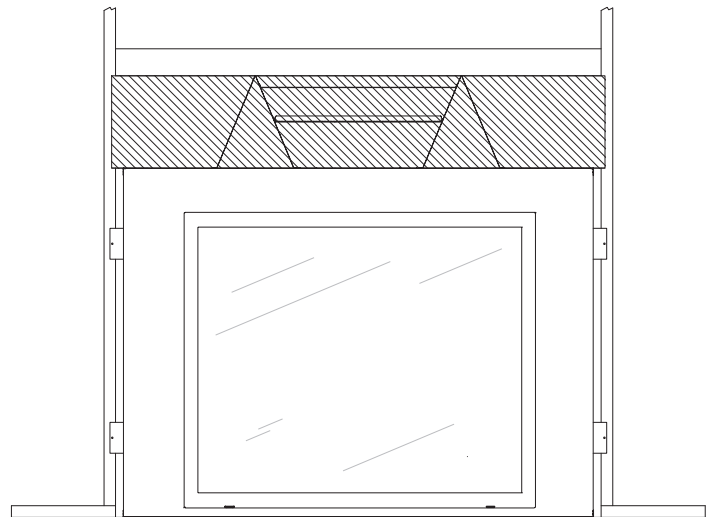

Figure 14
3. Attach fireplace to frame. **See Figure 14.**